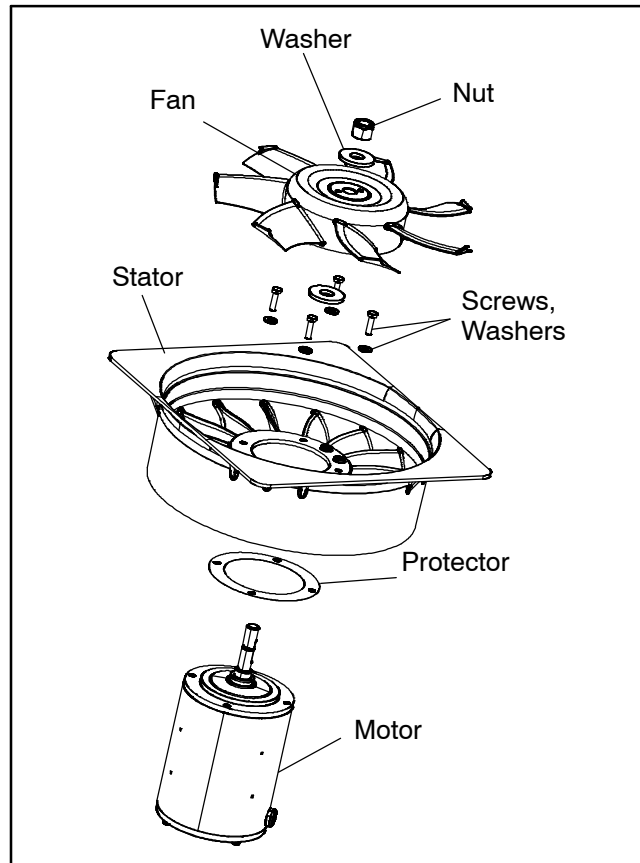

Figure 6-18 Evaporator Fan Assembly
- Attach a spanner wrench to the two 1/4-20 holes located in the fan hub. Loosen the 5/8-18 shaft nut by holding the spanner wrench stationary and turning the 5/8-18 nut counter-clockwise (see Figure 6-18).